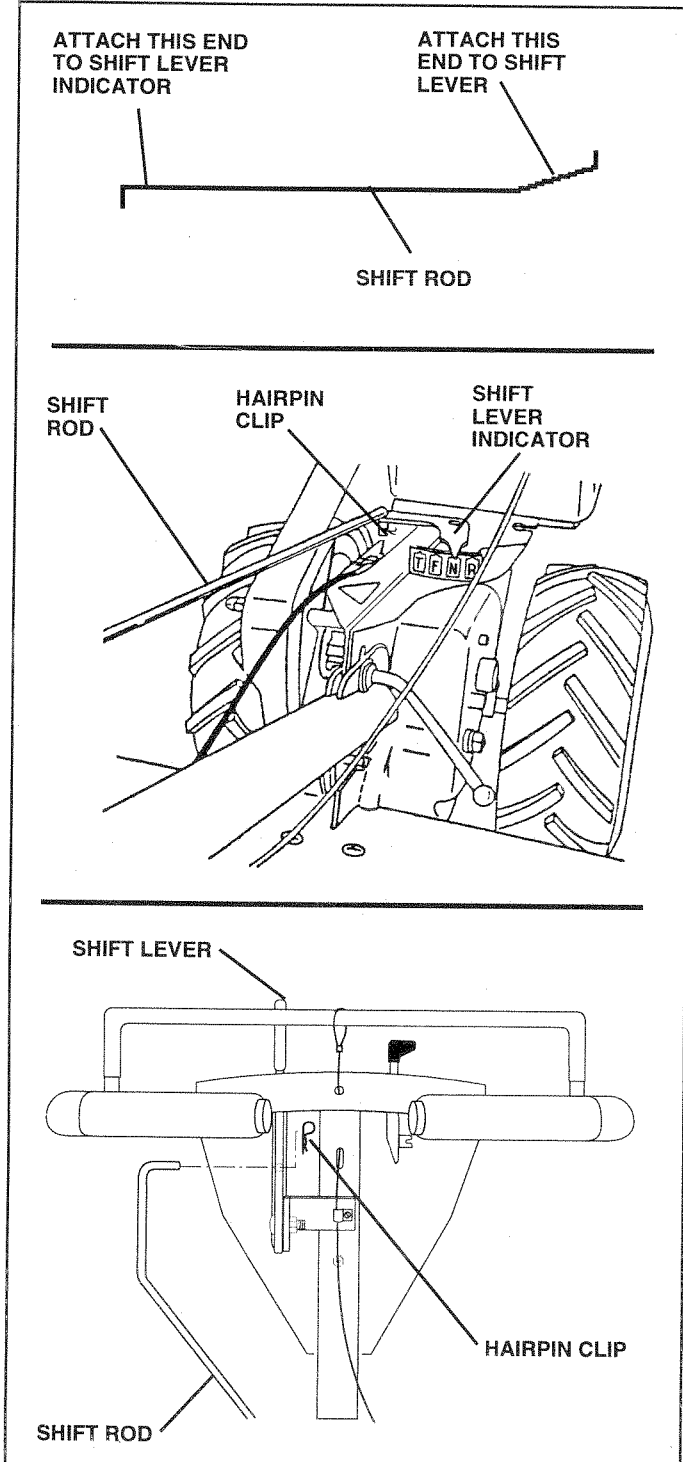

FIG. 6
CONNECT SHIFT ROD (See Fig. 6)
- Make sure shift lever indicator is in "N" (neutral) position (See Fig. 6)